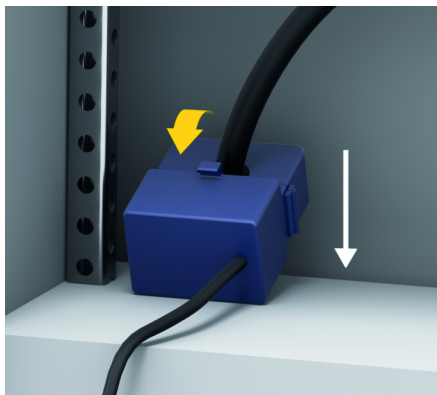

Fig. 15: Example installation, current sensor
- ▶ Comply with the measuring direction of the sensor (Fig. 15, white arrow).
- ▶ Select an installation location with straight-routed cables and observe the direction of measurement (**arrow pointing towards the electrical load**) (Fig. 15, white arrow).
- ▶ Insert the installation cable into the current sensor and close the cap of the current sensor (Fig. 15, yellow arrow).